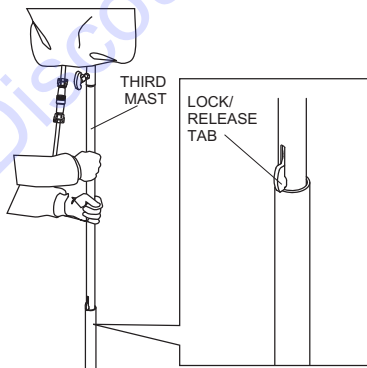

Figure 24. Raising the Third Mast
2. To raise the mast higher, raise the third mast until the lock/release tab pops out. The tab will automatically rest on the second mast. See Figure 24.